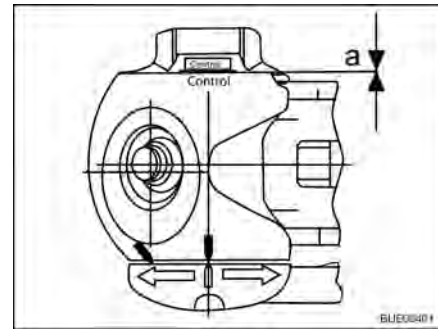

Fig. 98 Friction control
- Distance $a = 0$ (Fig. 98): Check and, if necessary, replace the friction pads.